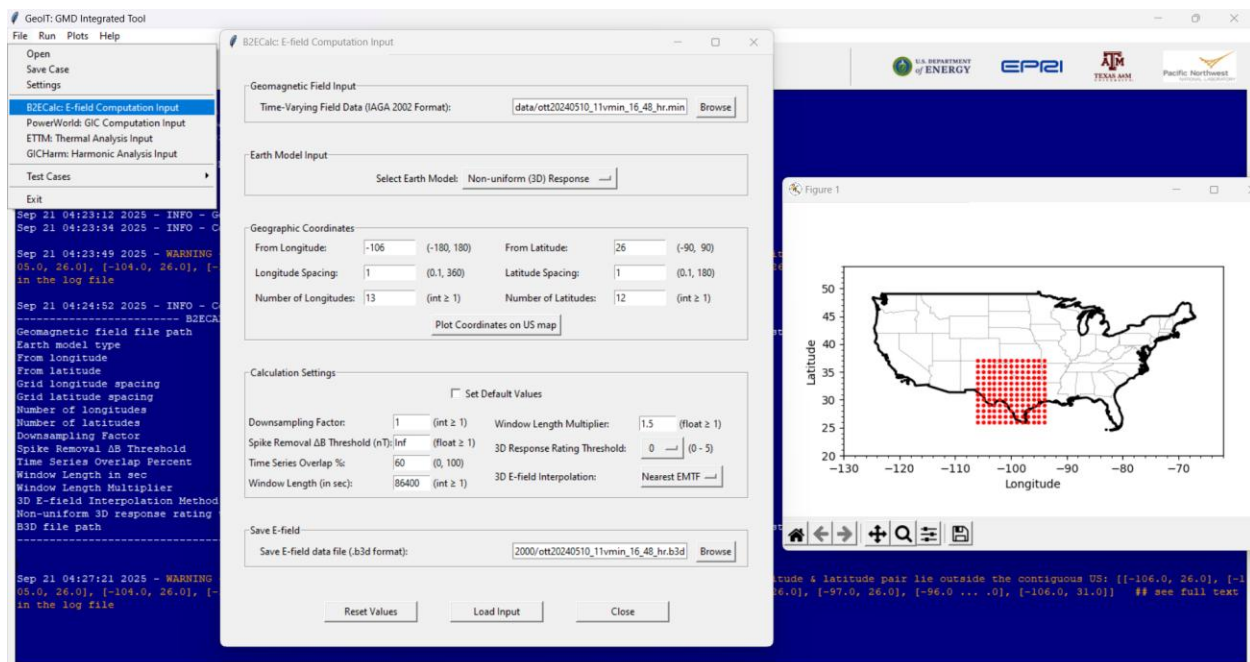

Figure 5. Geomagnetic Integrated Tool (GeoIT) Graphical User Interface Steps to Navigate File → B2ECalc: E-field Computation Input (Continued)
- **Calculation Settings:** These settings allow modification of the computation algorithm parameters (see Figure 5):